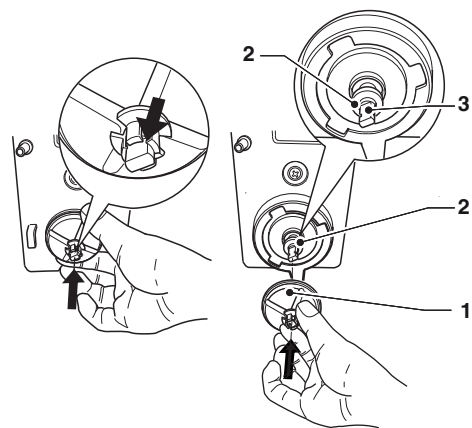

Fig. 28
- the fans can be removed by simply pulling gently to free them (see Fig. 28);
By inserting the fan completely, the stuffing box seal will assume the correct position (see Fig. 28).